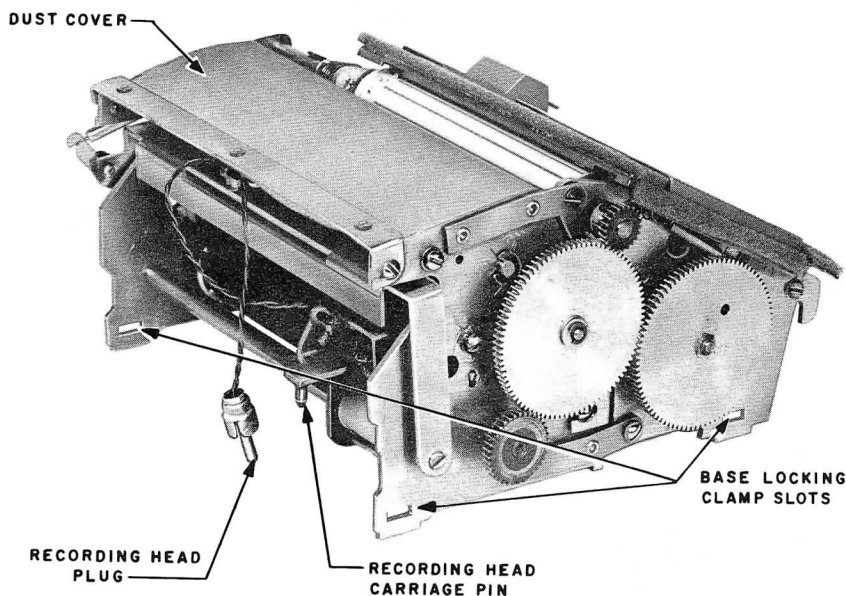
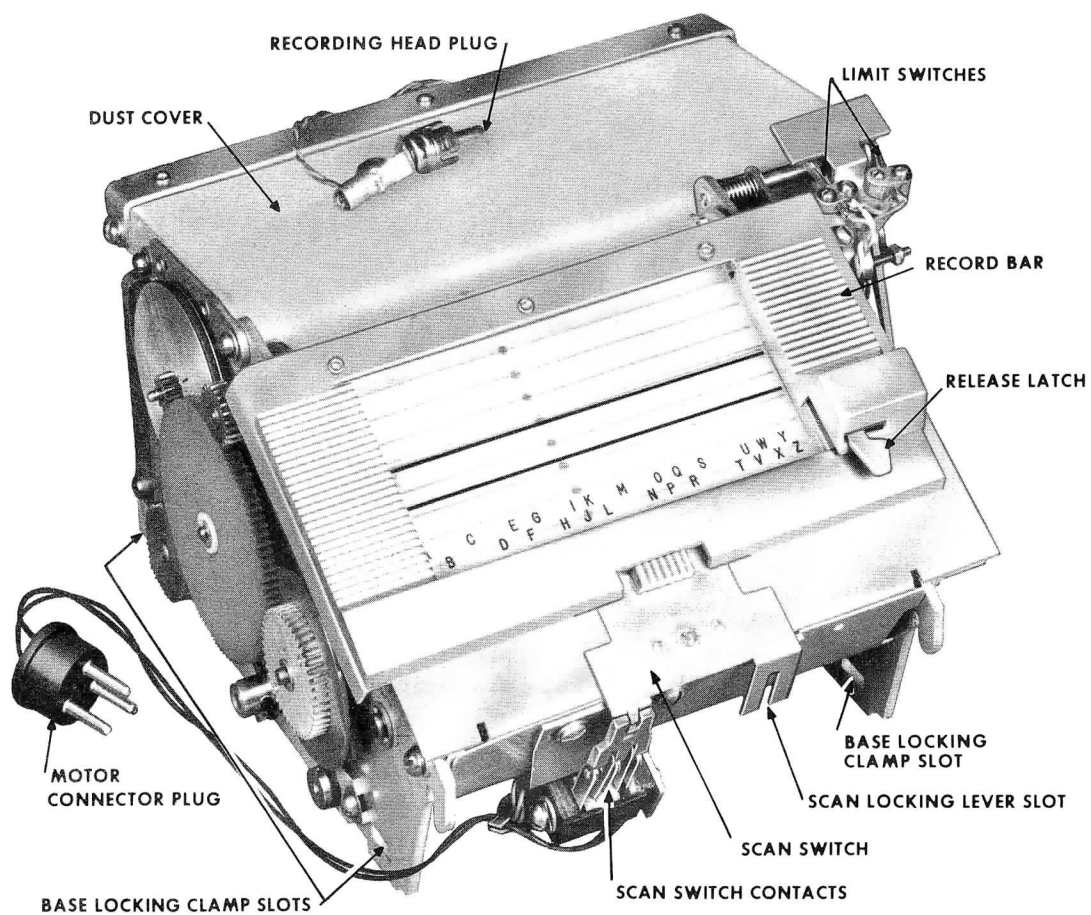

Fig. 10 - List 6 Tape Assembly Rear View
Fig. 11 - List 12 Tape Assembly
(1) Disconnect recording head plug from jack (Fig. 10). On List 12 cartridges disengage scan motor power lead plug from jack (Fig. 11).